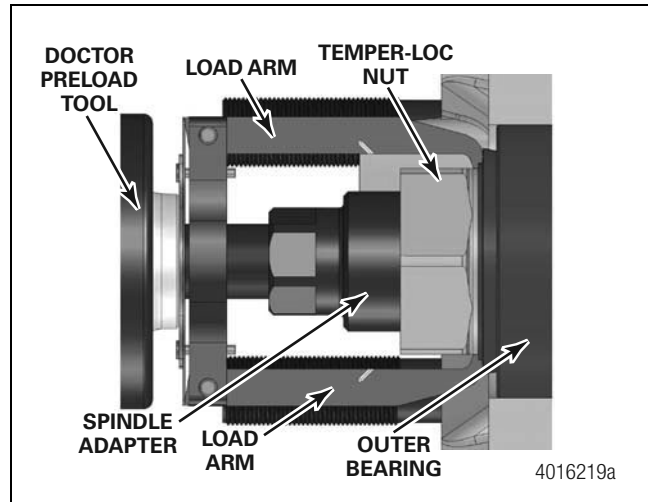

Figure 4
- Using a sweeping motion, guide the spring-loaded load arms around the nut. Carefully engage the spindle adapter thread on the spindle until the O-ring in the spindle adapter bottoms out against the spindle face. Figure 4.
- Check to make sure the load arms are correctly located in the backface relief of the Temper-Loc nut and are making contact with the outer bearing cone. If one or both are skewed out of alignment, slowly push and pull the load arm assembly along the shaft until the tips of the load arms spring into their correct position behind the Temper-Loc nut. Figure 4.